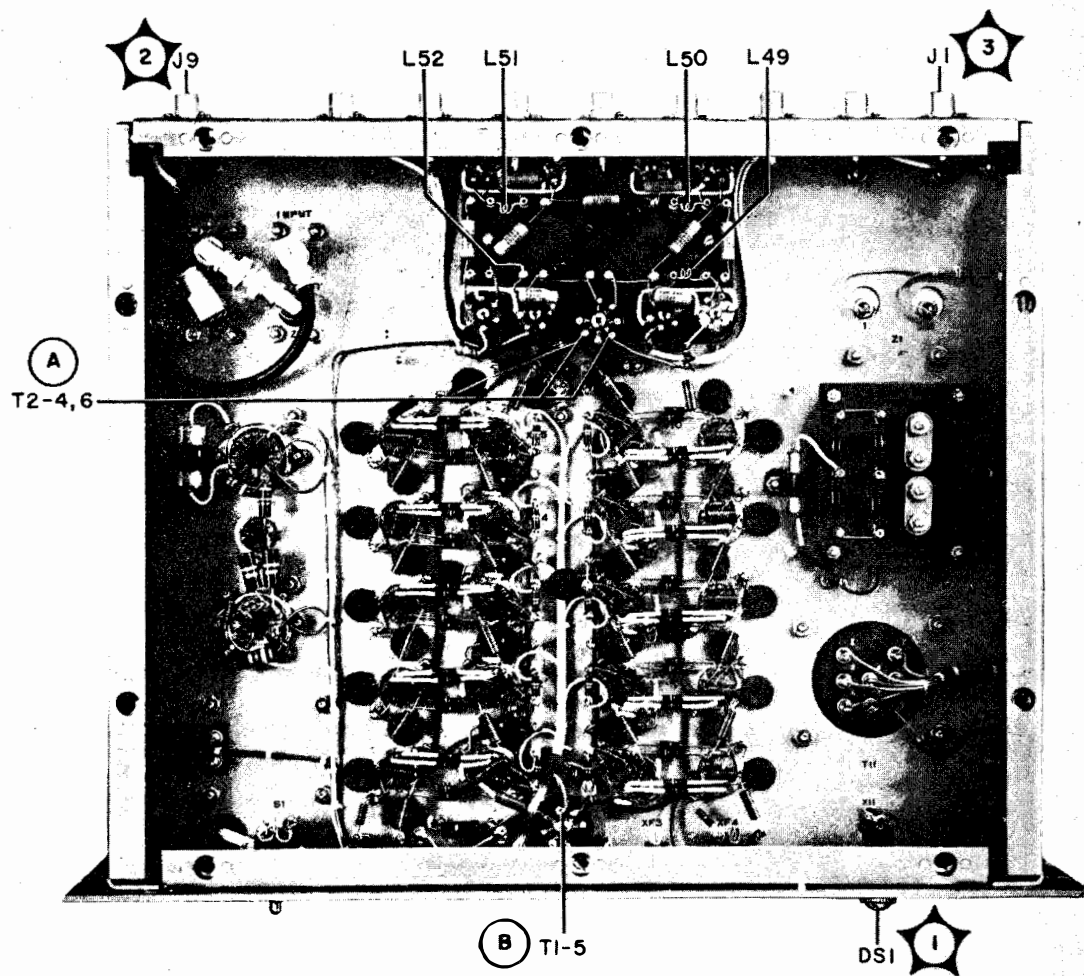

Figure 5-1. Antenna Coupler CU-656/U, Location of Test Points
c. A system of test points has been established to facilitate troubleshooting. The test points are shown on the overall schematic figure 6-1, and the physical locations are shown in figure 5-1. The test points fall in two categories: major and secondary. Each major test point is identified by an encircled Arabic numeral enclosed in a star. Starred numerals are used to identify points for checking overall performance including the signal input and output terminals. Each secondary test point is identified by an encircled capital letter. Circled letters are used to identify circuit supply voltage terminals and points for measuring gain.
d. **TROUBLESHOOTING CHART.** - The chart in table 5-1 is a systematic check to be used when trouble arises. The test points appearing in the column marked TEST POINTS are located on figure 5-1.